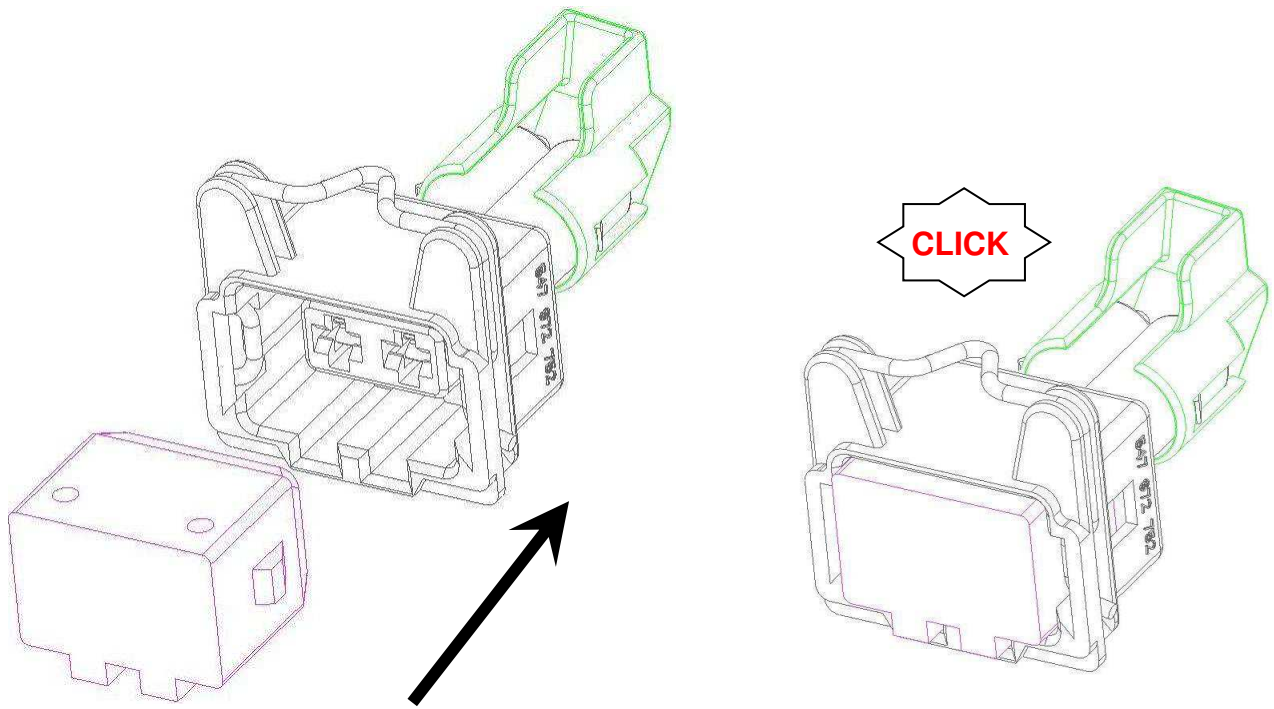

Figure 6
6.1 Press the Cover Cap (TE PN 444511) in the direction shown by the arrows; see Figure 6 below.